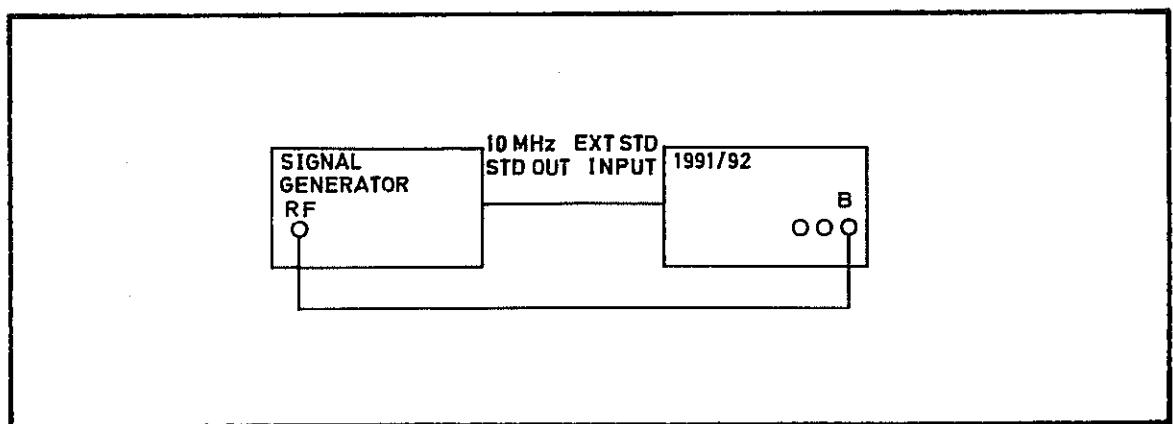

Fig 7.17 Connections for Channel B Sensitivity PVP
- 48 (1) Select 50 Ω on channel B.
(2) Connect the test equipment as shown in Fig 7.17. Check that the EXT STD indicator lights.
(3) Press **2**    **1**    **SHIFT**    **STORE**    **SF**    **SHIFT**    **SF**
(4) Set the signal generator output to the frequencies shown in Table 7.6 in turn. Set the 1991/92 resolution to the corresponding value.
(5) At each frequency, determine the minimum input level to the 1991/92 which gives stable counting. Verify that this is not more than the level shown in the table.
(6) Disconnect the test equipment.